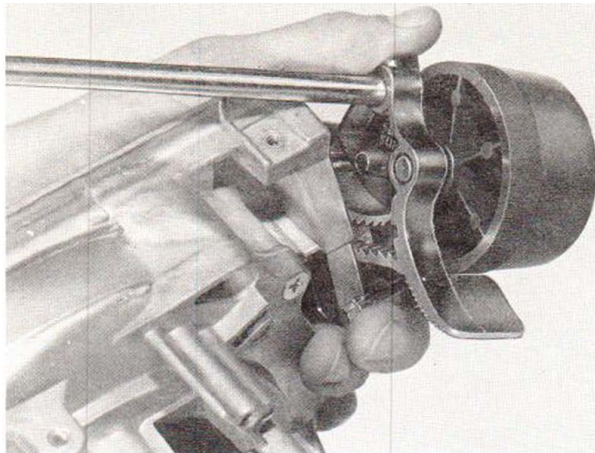

Figure 1-19. Installing front wheel shaft
(1) Position ratchet lock spring (52) and ratchet lock (51) in motor housing casting.
(2) Slide the toe control lever of front wheel bracket shaft (55) over the arrow-shaped boss on the ratchet lock and hold in place on the fan housing while attaching front shaft clamps (57) with attaching screws (56). See figure 1-19.